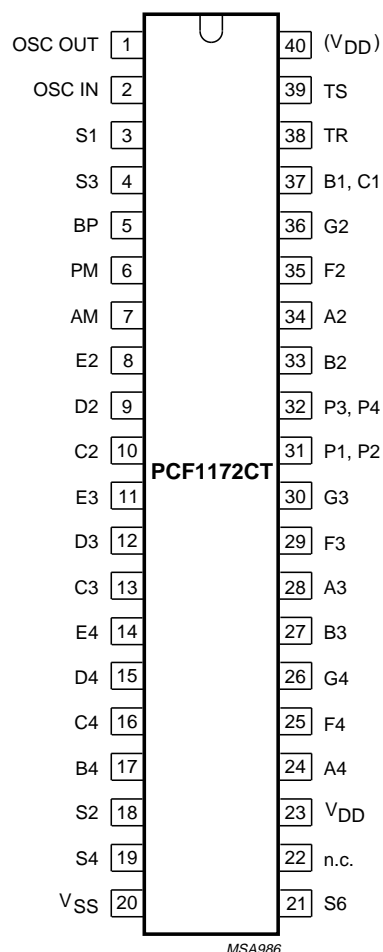

Fig.1 Pin configuration, PCF1172CT, (VSO40).
1. See Fig.1 and Chapter “Package outline” for pin layout and package details.